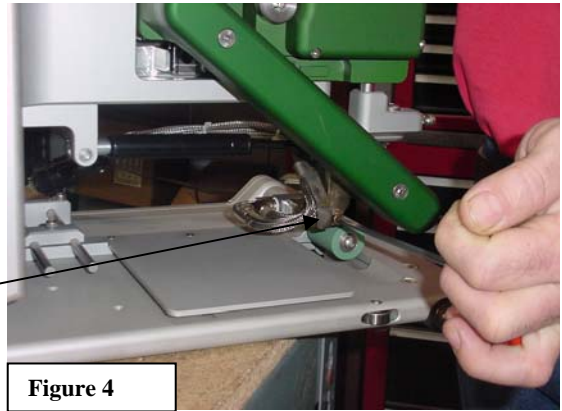

Figure 4
3. Disconnect wedge plug from chassis socket, as shown in figure 3. Unfasten both screws that secure wedge to hanger bracket and remove wedge. See figure 4. Carefully remove lead heater bracket from wedge. **Be careful not to twist or damage steel braid wire covering.**
4. Install new wedge to the wedge hanger with the lead bracket under the longer of the two screws. Tuck the leads in as close to the wedge hanger as possible and crimp the lead bracket tabs around the leads to hold them in place, as shown in figure 4 and 5.